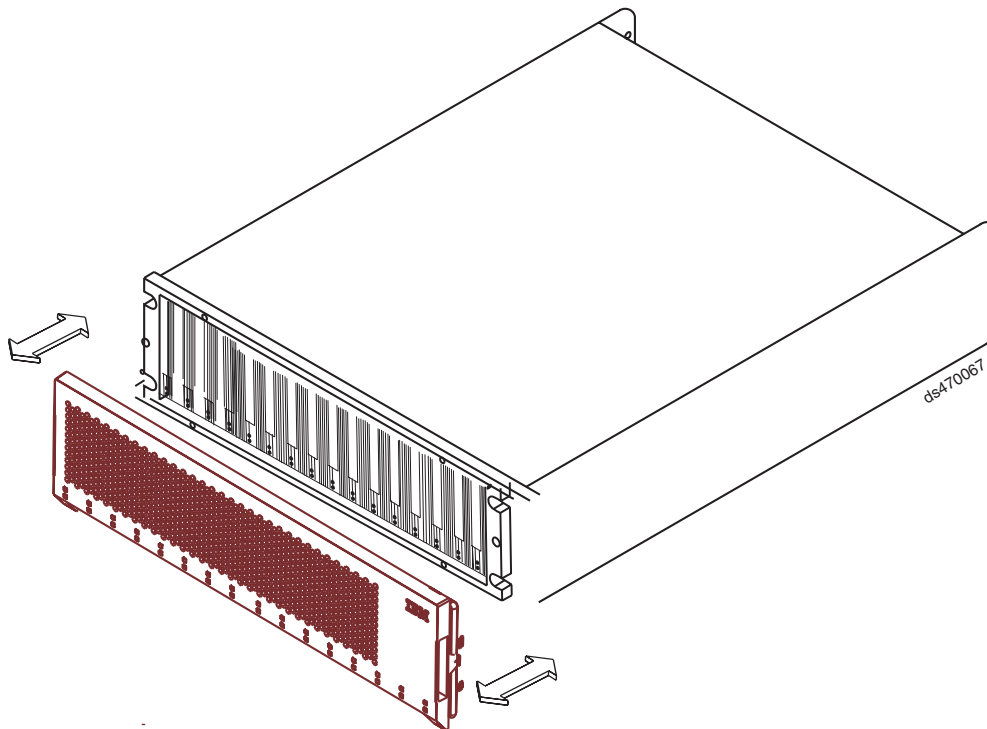

Figure 109. Removing and replacing a bezel
1. Grasp the sides of the bezel and pull it slowly toward you to remove it, as shown in Figure 109.
2. To replace the bezel, grasp the sides of the bezel and snap it onto the DS4700 Express chassis, as shown in Figure 109.
1. Remove the bezel by grasping the sides of the bezel and pulling it slowly toward you, as shown in Figure 109 on page 150.
7. Grasp the sides of the bezel and snap it onto the DS4700 Express chassis, as shown in Figure 109 on page 150.